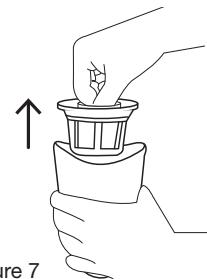

Figure 7
2. Pull out the F5 fine particle filter/pre-filter assembly from the container (Fig. 7).